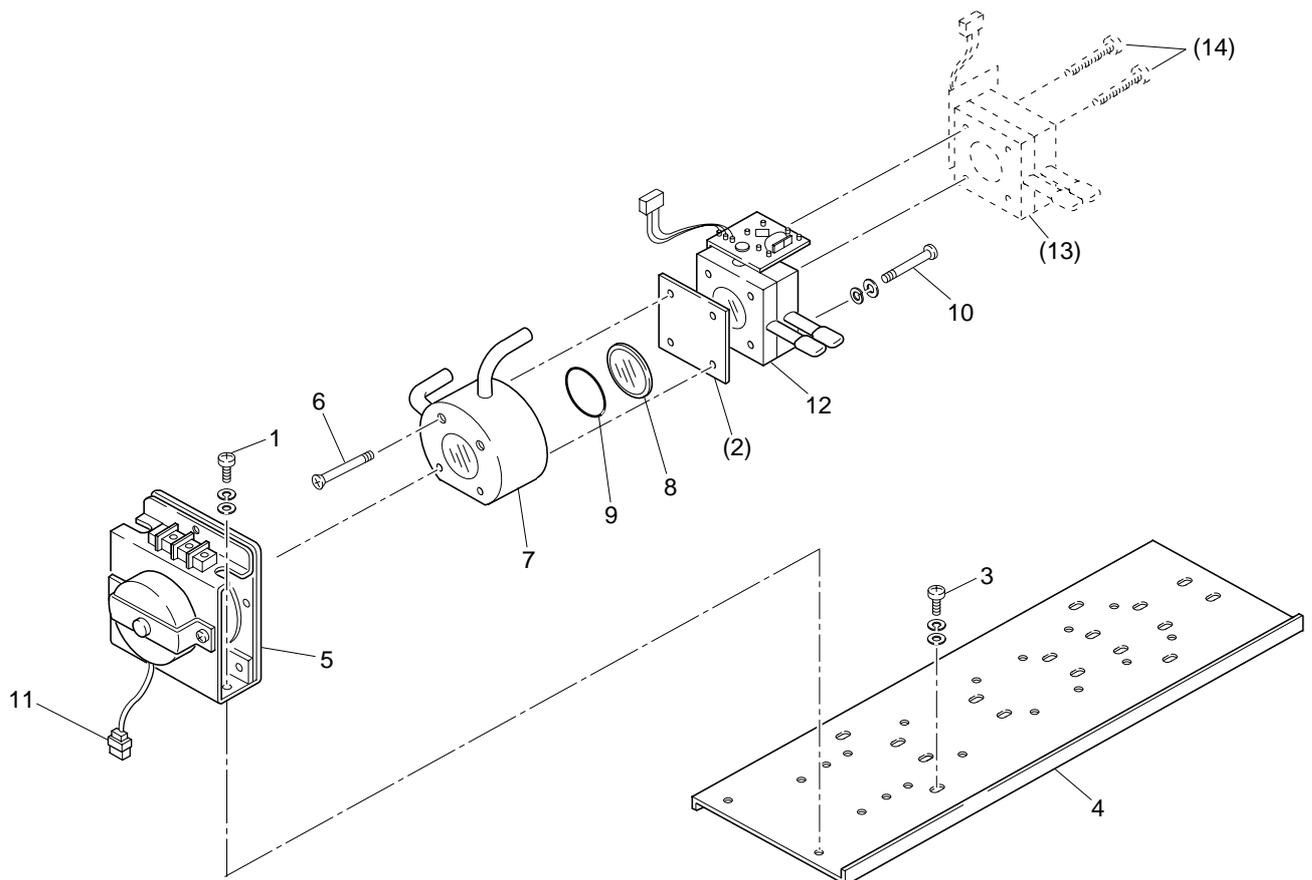

Fig. 5-2 Composition of measurement unit (block cell)
(2) Cleaning the block cell (See Fig. 5-2)
In the case of 2-component analyzer, also remove the connector of the detector for the second component (No.13 of Fig. 5-2) from the printed board. Loosen the two screws fastening the detector for the second component (No.14 in Fig. 5-2), and remove the detector for the second component.
- 5) Remove the two screws (No.10 in Fig. 5-2) fastening the detector for the first component to the infrared ray light source unit. The cell can be removed together with the detector.
- 6) Loosen the two screws fastening the cell (No.6 in Fig. 5-2), and remove the cell. One of the windows of the block cell is sandwiched between the detector and the block cell, but is not fastened. Remove the cell with the detector facing up, being careful not to drop it.